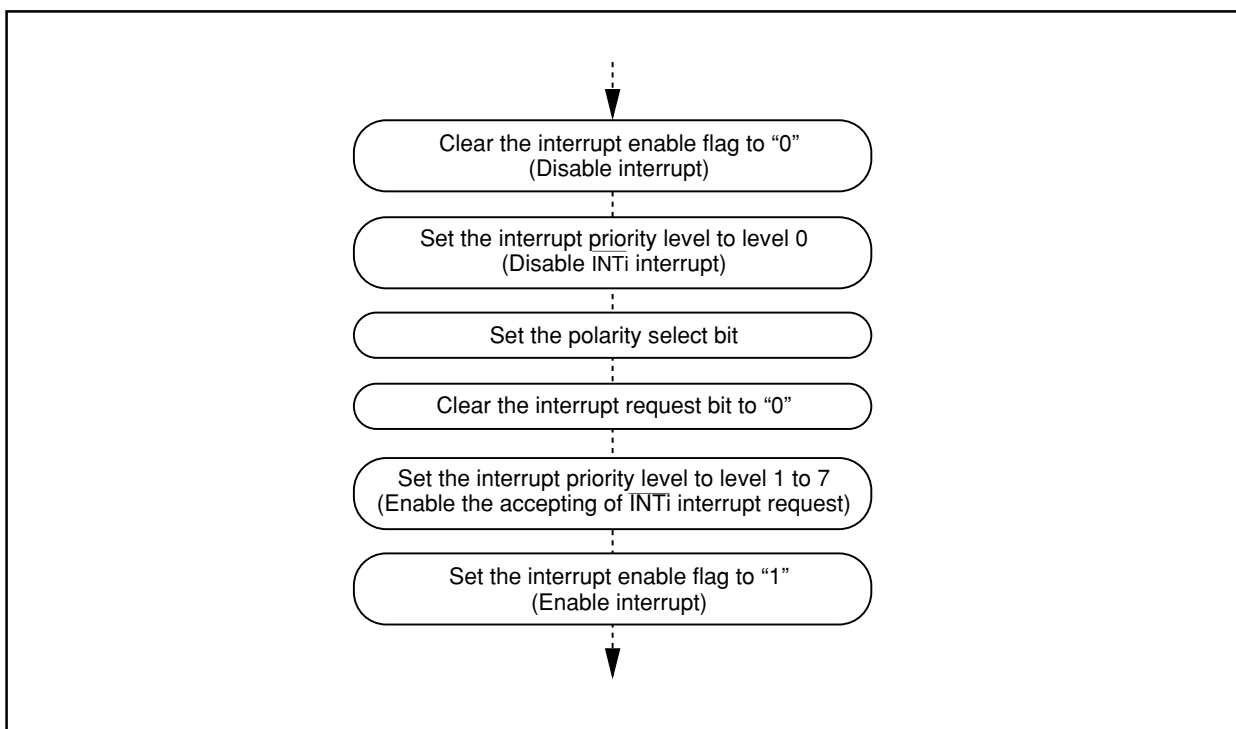

Figure 1.12.17. Switching condition of \overline{INT} interrupt request
(2) Setting the stack pointer
(3) External interrupt
- When changing a polarity of pins $\overline{INT0}$ to $\overline{INT3}$, the interrupt request bit may become "1". Clear the interrupt request bit after changing the polarity. Figure 1.12.17 shows the switching condition of \overline{INT} interrupt request.